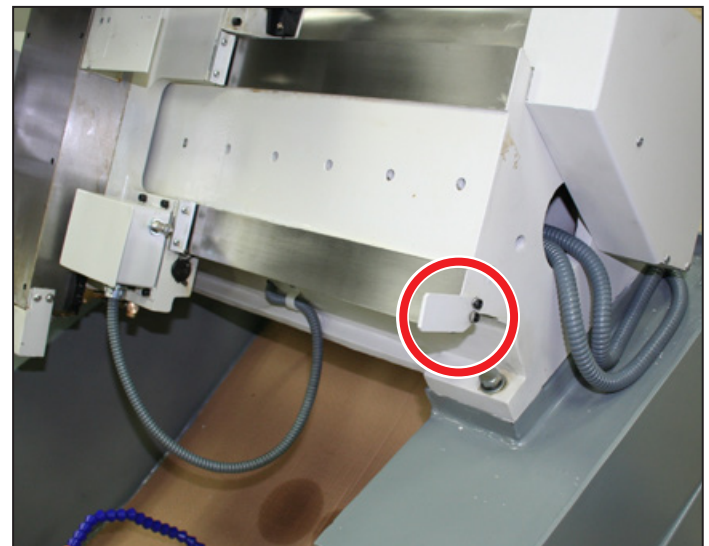

Figure 2
2. Remove Z-axis Limit Switch Flag and retain for future use (see **Figure 2**).